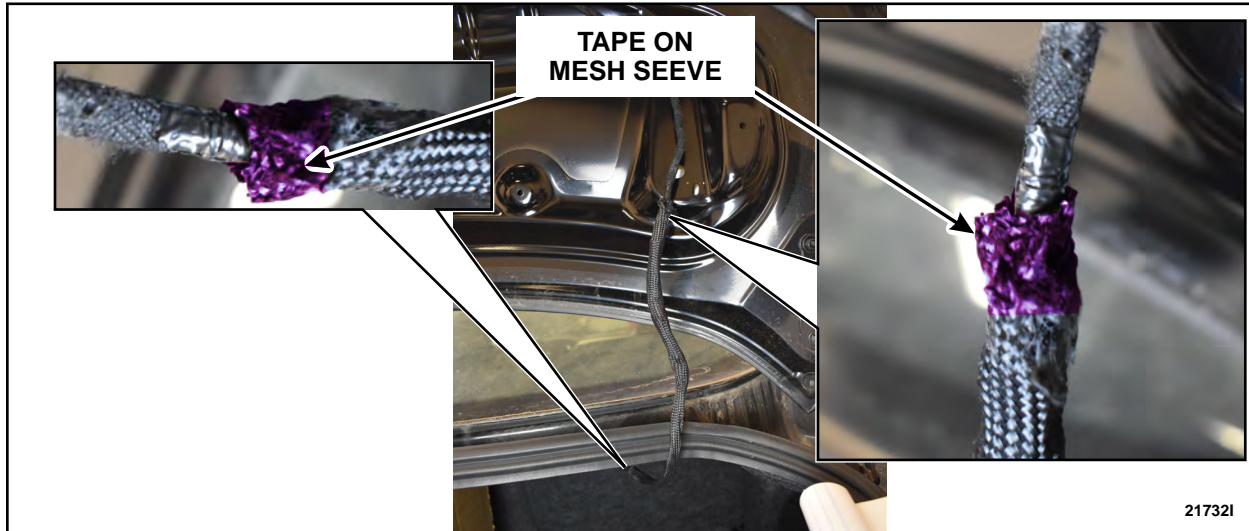

FIGURE 9
13. Remove the tape to expose both ends of the mesh sleeve. See Figure 9.